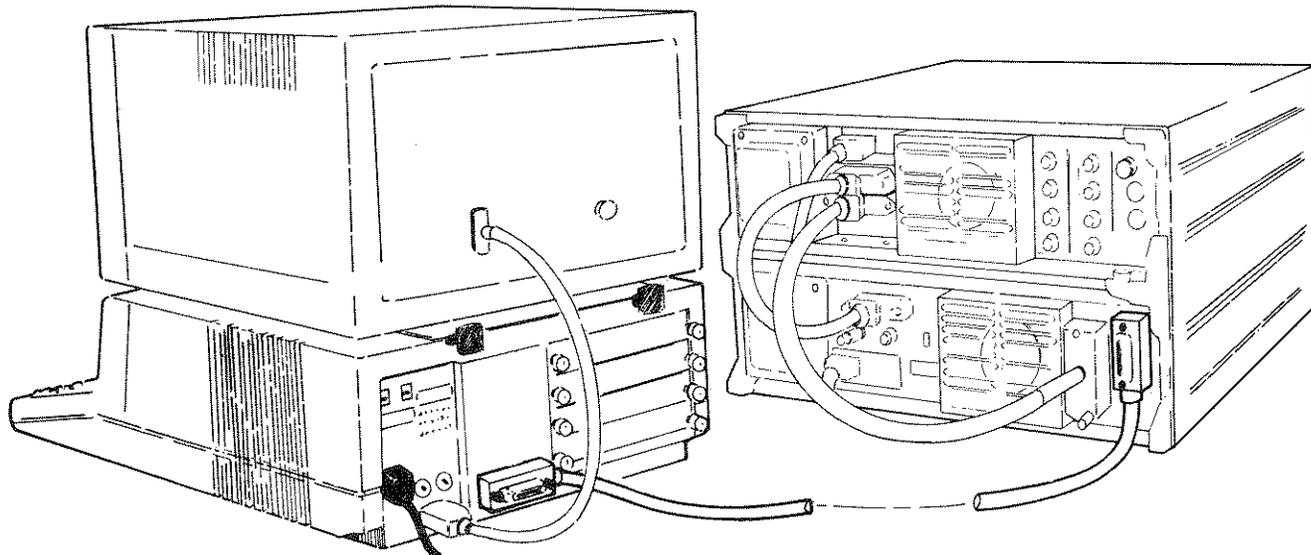

FIGURE 1. SYSTEM CONNECTION
Figure 1 shows the system connections. To connect the system as shown, follow these steps.
2. Attach an HP-IB cable to the 24-pin HP-IB connectors on the back panels of the HP 9816S/9826A/9836A and HP 8566B/8568B. The connectors are shaped to ensure proper orientation. (See Figure 1.)